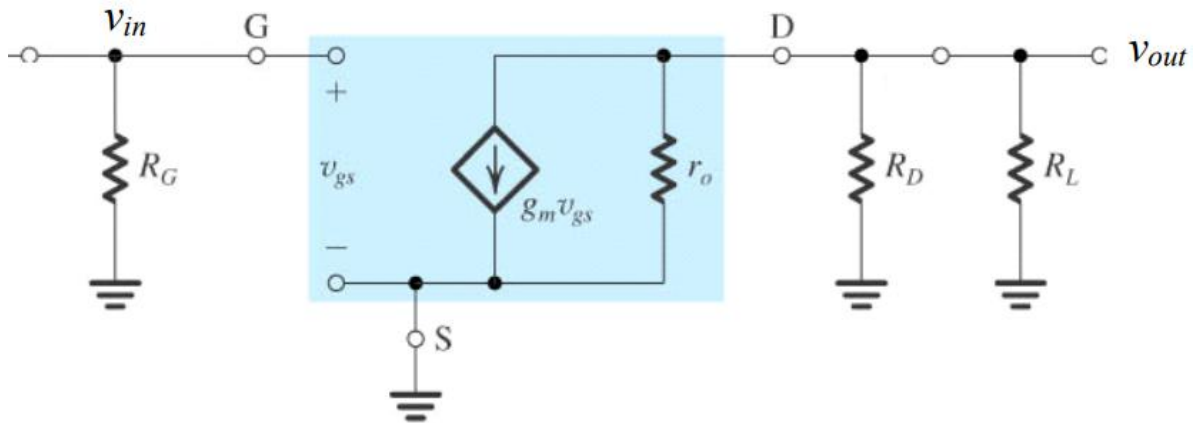

Figure 5: Small signal model of the circuit shown in Figure 3
To determine amplifier input resistance, we can consider the two-port network model of amplifier as shown in Figure 5. Here, the input impedance Z_i or R_i is the resistance seen from the input port of amplifier which is the ratio of input voltage and input current.
- Write mathematical expression to determine amplifier loaded gain in terms of circuit parameters from the small signal model of Figure 5 and use this expression to compute loaded voltage gain. Compare your experimental and mathematical values of loaded voltage gain.